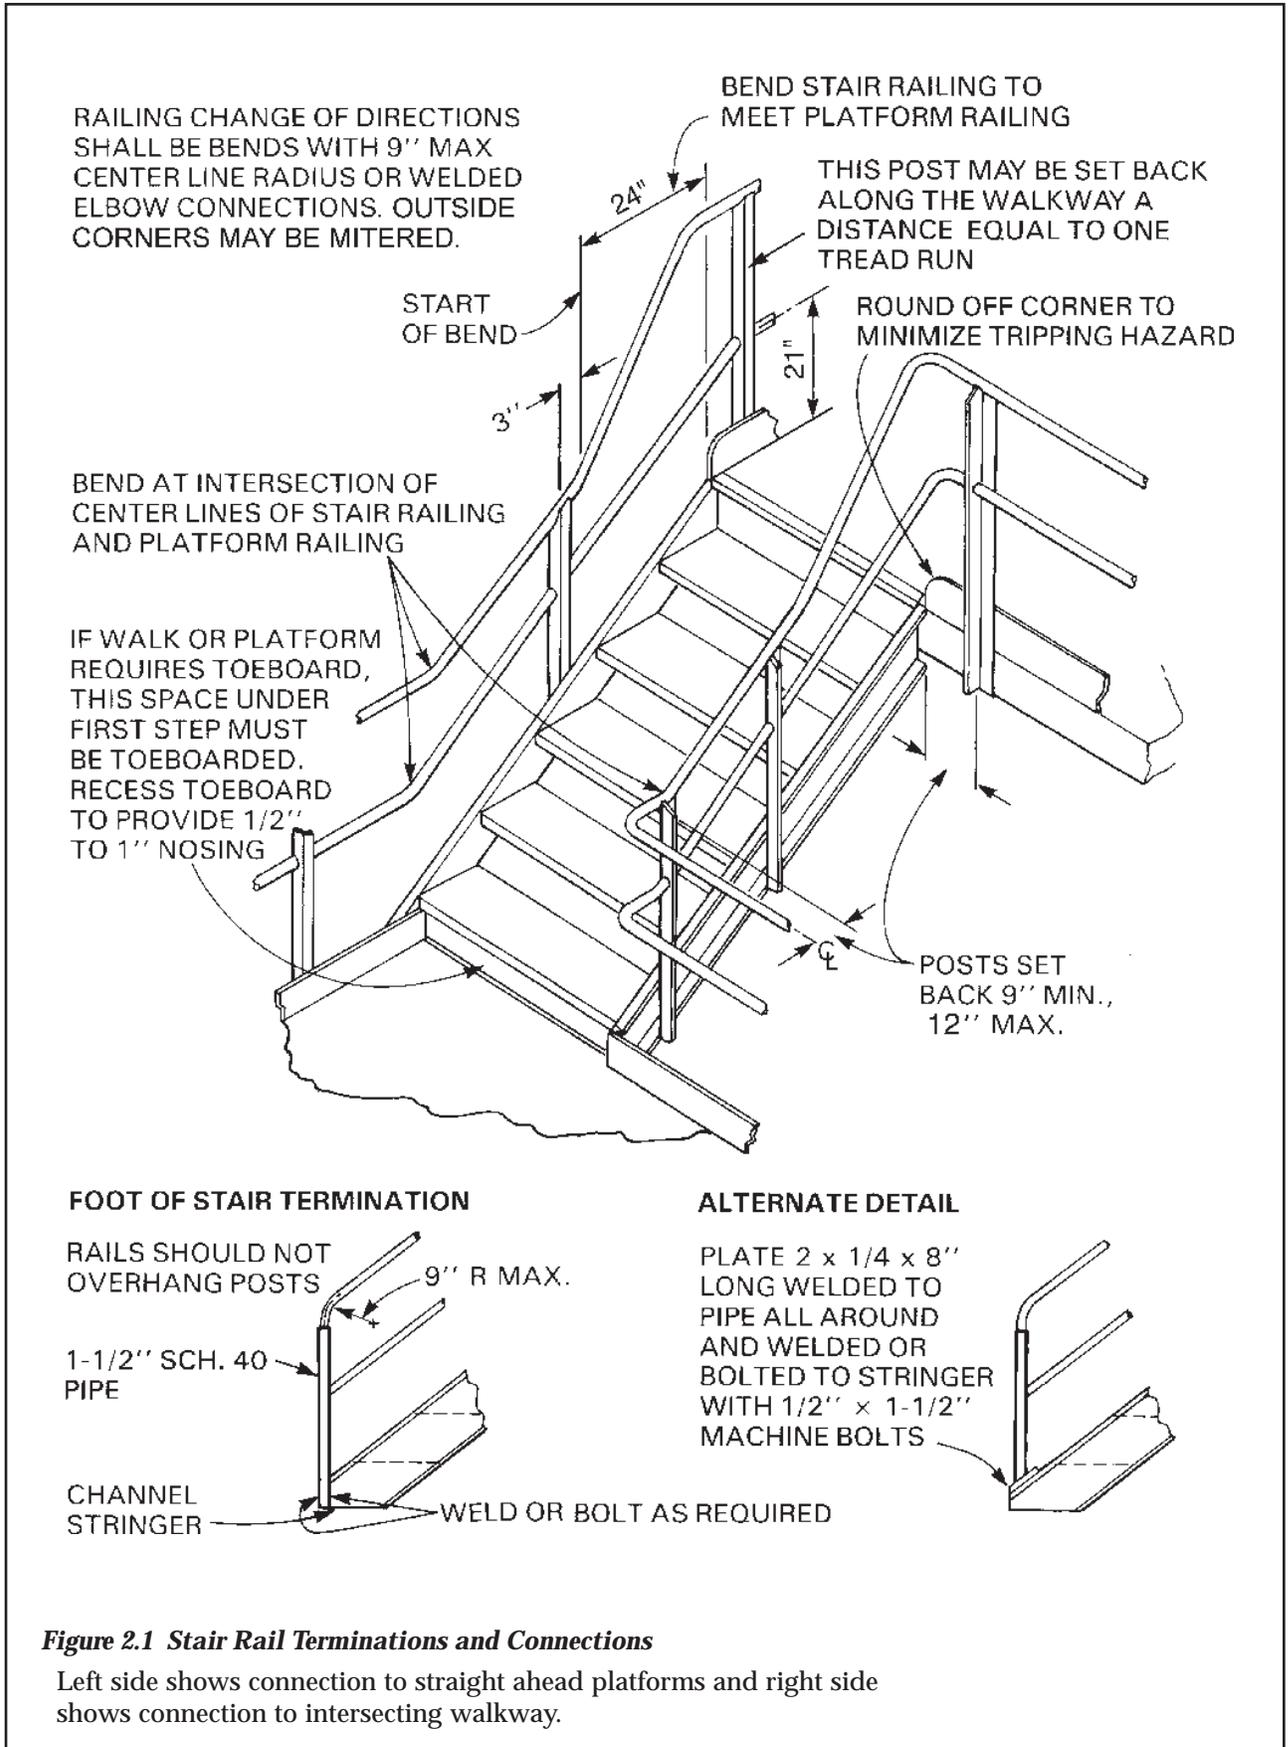

Figure 2.1 Stair Rail Terminations and Connections
3. A toeboard is also required under the first tread of stairs ascending at the open side from platforms, walkways, or floors which require toeboards (see *Figure 2.1*).
4. *Figure 2.1 and Figure 2.3 show typical arrangements for steel railings, terminations and connections.*